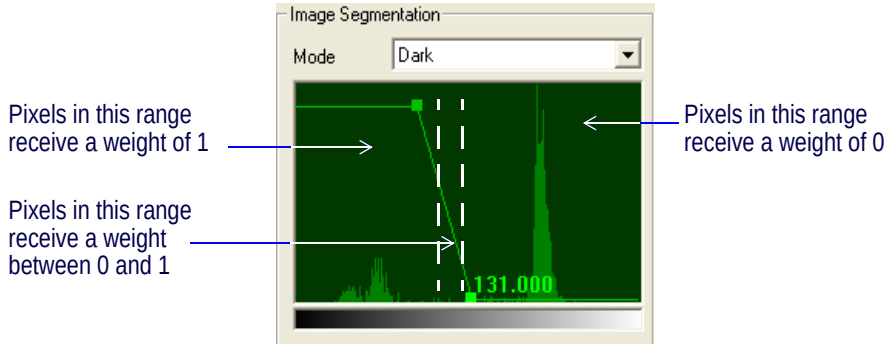

Figure 72 Image Segmentation Function Editor
3. Use the mouse to drag the handles in the graphic function editor. Set the Image Segmentation weight function as illustrated in Figure 72.